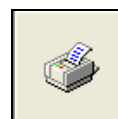

Figure 16.8.1C
1. Click on the **Print** icon located in the toolbar at the top of the screen (Figure 16.8.1C).